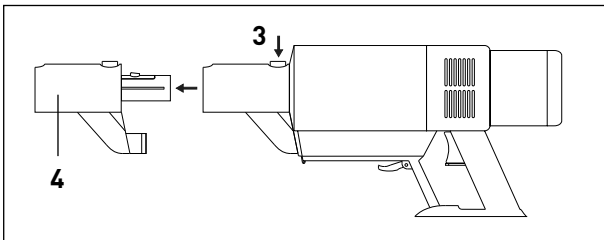

Figure 13
Disconnect the battery and remove all accessories and the adapter (4) by pressing the adapter release button (#3 figure 13). Have a suitable container ready to receive the contents of the dust container.